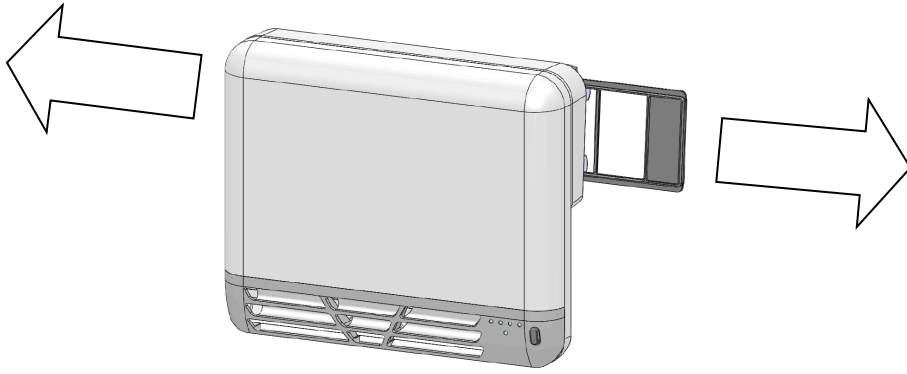

Fig. 21
2. *pull the filter at the rear of the blower to right or left to extract it, as indicated in Fig. 21;*